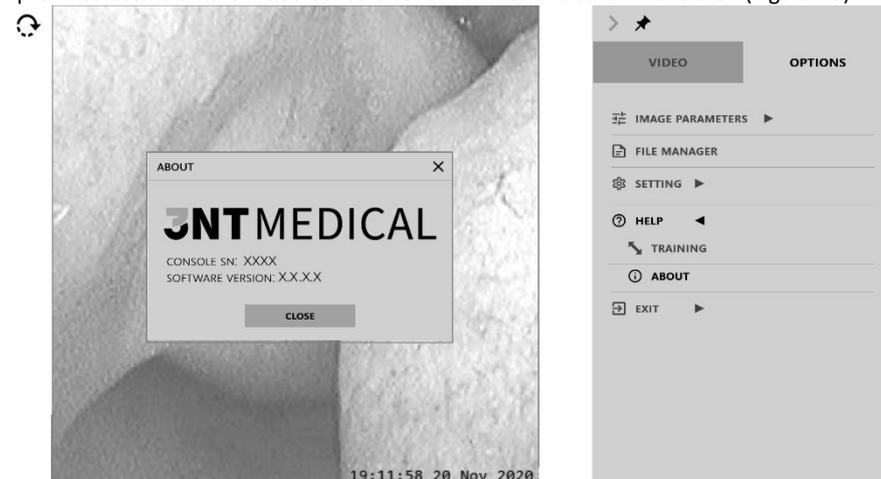

Figure 15 - About Screen
5.2. ABOUT screen provides details on the Video Console serial number and software version (Figure 15).